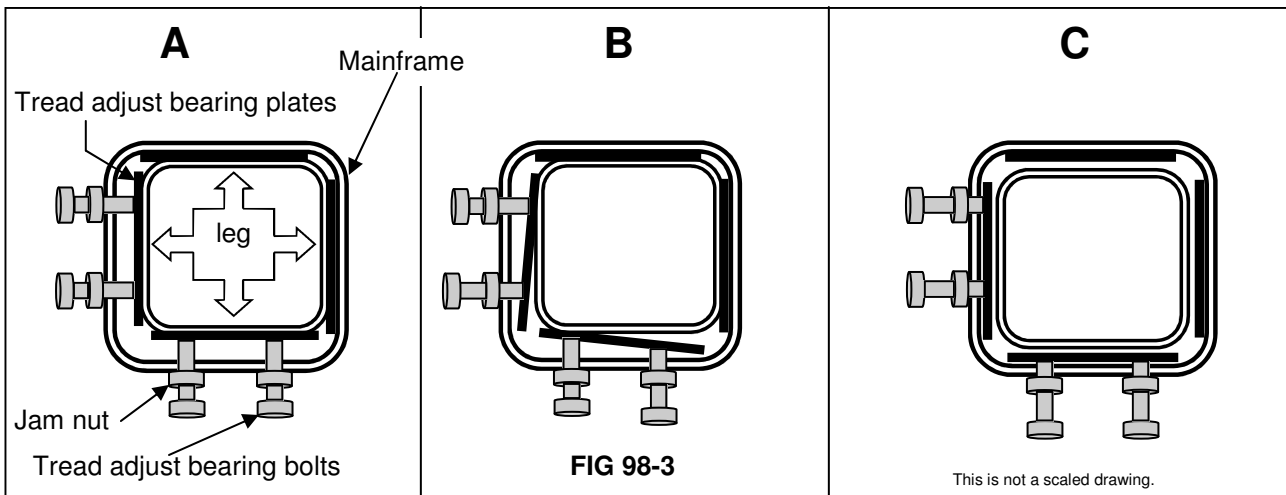

FIG 98-3
**Even pressure of the tread adjust bearing plates is required for proper operation!** (fig. 98-3) Figure A shows the correct position of the tread adjust bearing plates and bolts as well as the outer leg. Figure B shows the plates when there is not even torque on each of the tread adjust bearing bolts. Figure C shows a situation in which there is not enough torque on the tread adjust bearing bolts. Both figure B and C will cause the tread adjust to operate incorrectly or not at all.